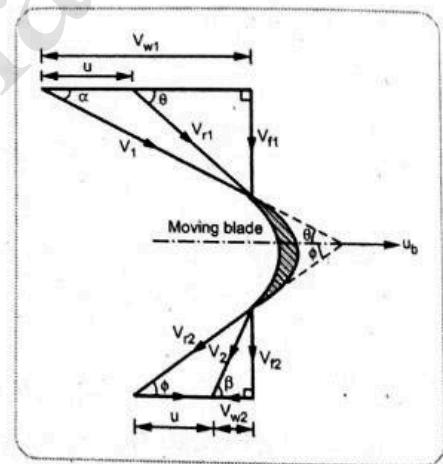

Fig. 4.10 : Inlet and outlet velocity diagram for Impulse turbine
- Fig. 4.10 shows the velocity diagram of the moving blade at inlet and outlet for an impulse turbine.